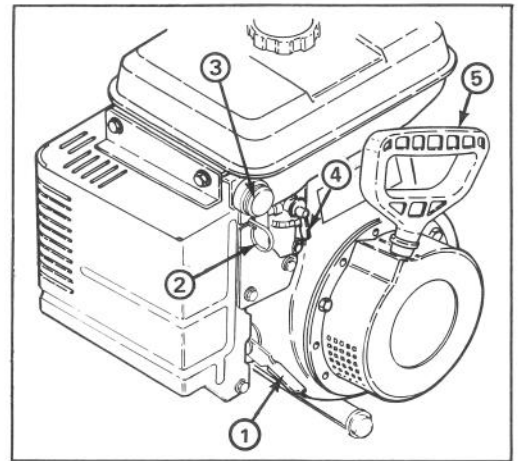

Figure 10
Throttle (Fig. 10) — Moving the throttle upward increases the engine speed.
Choke (Fig. 10) — Choke is located on back of engine cover. Pull choke out to HALF or Full choke position to start a cold engine. As engine warms up, push choke in gradually to OFF.
Primer (Fig. 10) — Push primer in to pump small amount of gasoline into engine for improved cold weather starting.
Fuel Shut-Off Valve (Fig. 10) — Valve is located under fuel tank. Close valve to stop fuel flow from fuel tank and open valve to allow fuel to flow to the carburetor. Close valve when snow-thrasher is not used. Valve is open when in the vertical position as shown.
Recoil Starter (Fig. 10) — Recoil starter is on back side of engine. Pull recoil starter to start engine.
1. Move speed selector to N — neutral — and throttle midway between SLOW and FAST (Fig. 10).
3. Pull choke out to half choke position when temperature is above 0°F. and to full choke position when temperature is below 0°F. (Fig. 10).
5. Push primer (Fig. 10) twice if temperature is below 10°F. (Priming more than twice may cause fuel to spill from carburetor).
6. Grasp recoil starter handle (Fig. 10) and pull it out slowly until positive engagement results; then pull vigorously to start the engine. Keep firm grip on starter handle and return the rope slowly.
7. After engine starts gradually push choke in (Fig. 10).